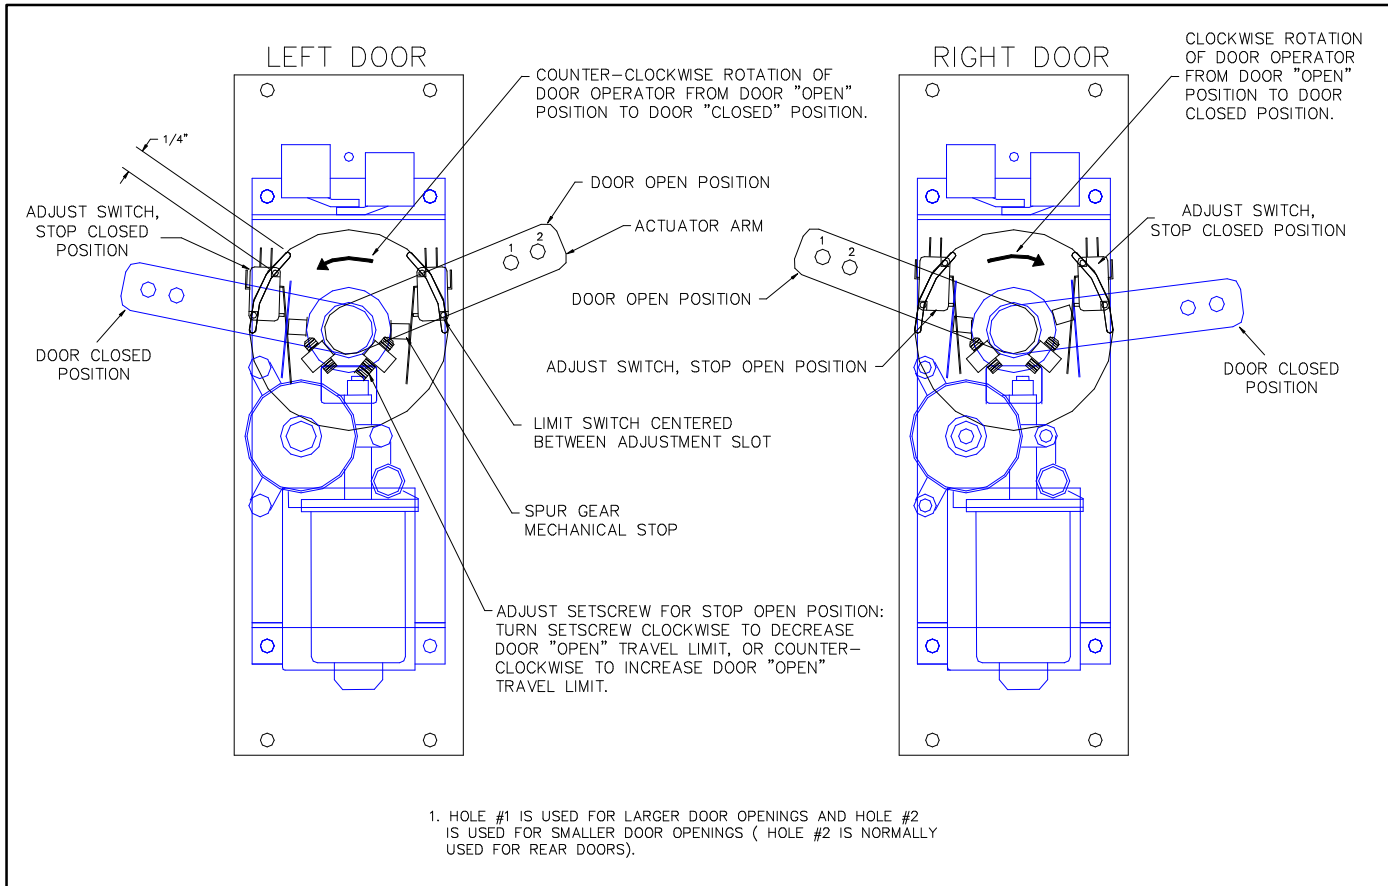

FIGURE 2-6: DOOR OPERATOR ADJUSTMENTS
2. Refer to **Figure 2-6**. With the actuator arm pointing inward INTO the door jam (the "open" position), the door operator mechanical stop located on the spur gear should make contact with the main plate adjustable setscrew. If not, with the "open" limit switch mounting position centered between its adjustment slot, turn setscrew clockwise to decrease the "open" door travel limit, or counter-clockwise to increase the "open" door travel limit.